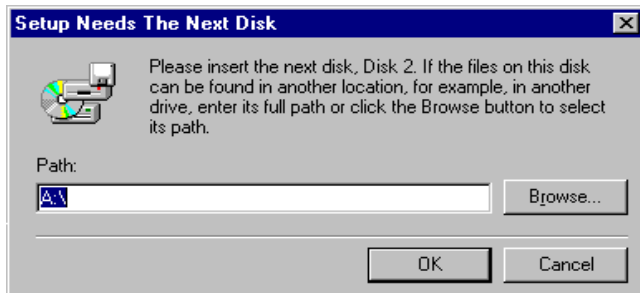

Figure 2-8. Insert Installation Disk 2
11. Setup will request that you to insert Global Array Manager Client Installation Disk 2 when appropriate (Figure 2-8):